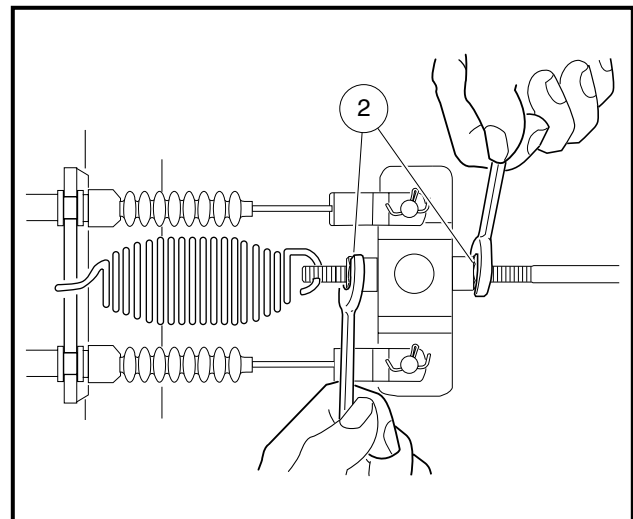

Figure 5-1a Loosen Rear Equalizer Rod Nuts
- 1.3. For four-wheel brake vehicles only: loosen the front brake equalizer rod (Figure 5-1a, Page 5-2).